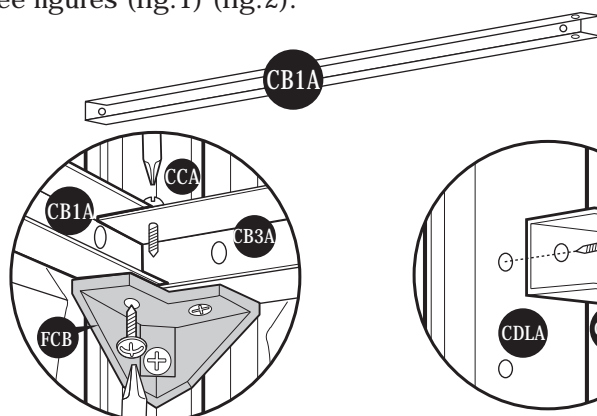

Fig.1: Use (S1) screws. Fix (CB1A) to fitting (FCB) & (CB3A)
21. To stabilize the front panel attach center band (CB1A). See figures (fig.1) (fig.2).